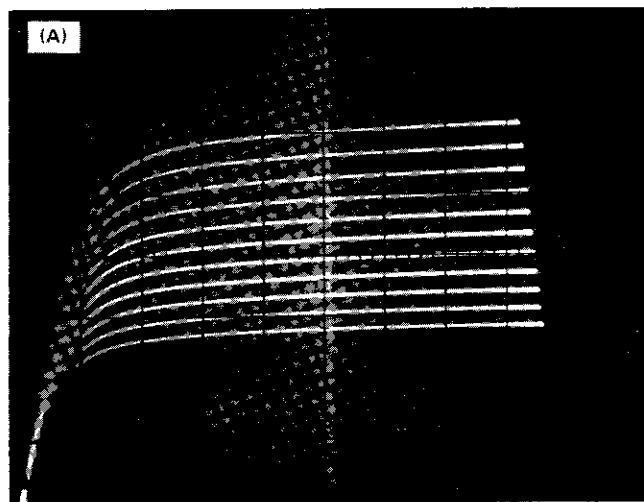

Fig. 14A. Illustration of step 19, g_m calculation.
18. Set the LEFT-RIGHT switch to LEFT. Turn the VARIABLE COLLECTOR % slowly clockwise. Note the display of drain current vs. drain-source voltage. Since the steps applied to the gate are positive-going, the curves represent the enhancement mode of operation of the FET (see Fig. 14A). Press the STEP FAMILY SINGLE button to locate the curve obtained with zero volts on the gate.